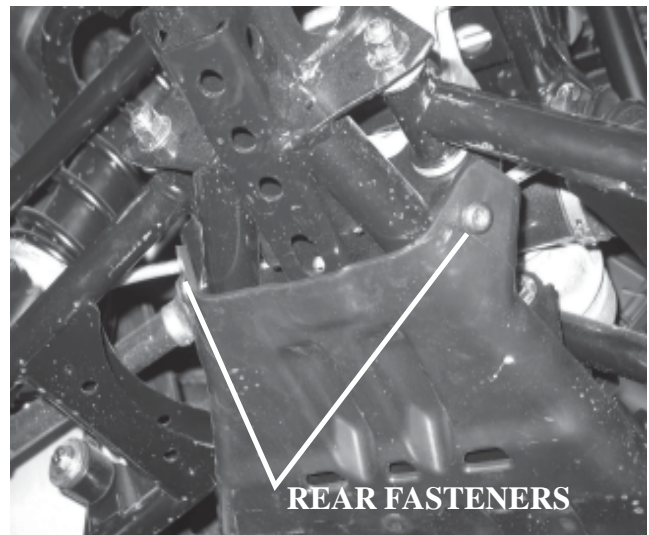

Figure 4
4. Remove the 2 fasteners securing the rear skid plate at the rear of vehicle. Retain these fasteners they will be used when installing the new skid plate. Remove the rear skid plate at this point, figure 4.